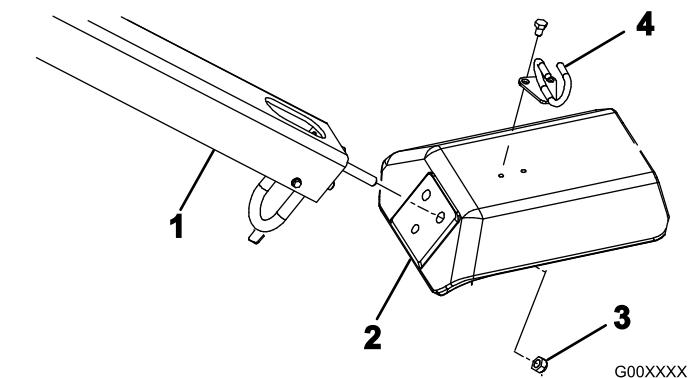

Figure 4
3. Secure handle studs to fork with 3 locknuts (1/2 inch) (Figure 4)
5. Mount the cable guide to the top of the fork with 2 bolts (5/16 x 1/2 inch) (Figure 4).
2. Insert the handle mounting studs into the holes in the fork (Figure 4).